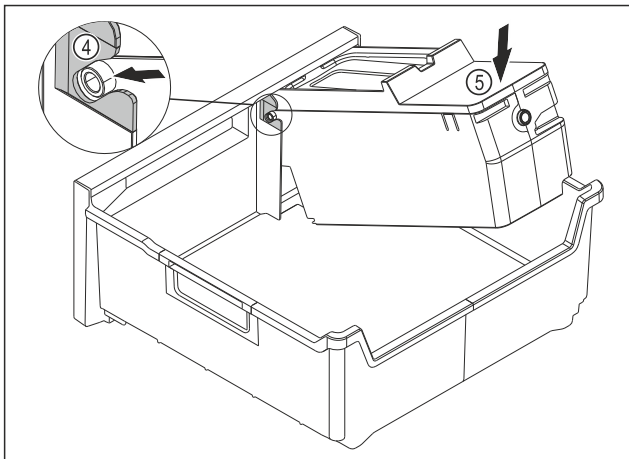

Fig. 125
- ▶ Installing the EasyTwist-Ice body: Push the axes for the EasyTwist-Ice body into the guides Fig. 125 (4).
- ▶ Press the EasyTwist-Ice body Fig. 125 (5) down at the back.